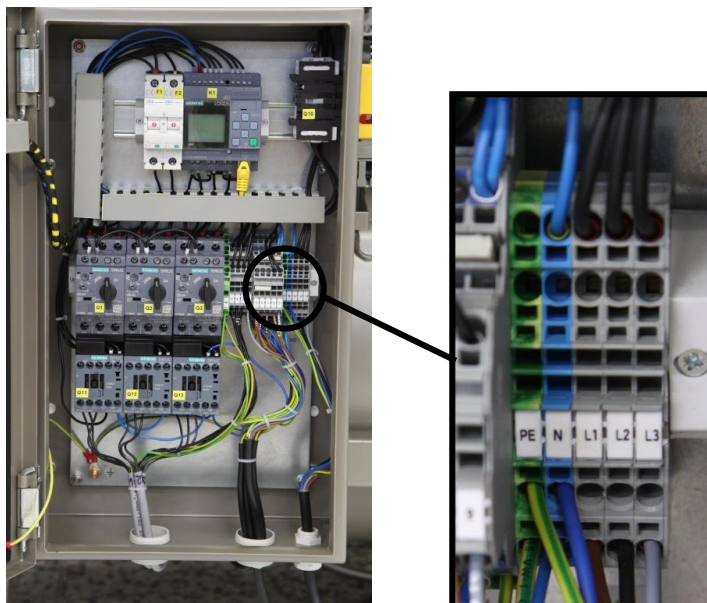

Fig. 11
- Connect the individual power cord conductors to the power terminals L1 (black), L2 (brown), L3 (grey), N (blue) and PE (green-yellow). (Fig. 11)